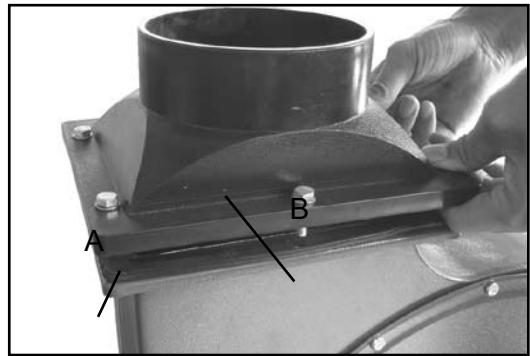

Fig. 04
1. Place the rubber gasket on the flange of the fan housing (A--Fig. 04).
2. Align the holes of the mounting flange on the fan housing for the holes of the 5" outlet (B--Fig. 04).